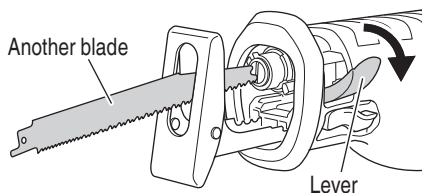

Fig. 5
- (1) If a part of the broken saw blade is sticking out of the small slit of the plunger, pull out the protruding part and take the blade out.
- (2) If the broken saw blade is hidden inside the small slit, hook the broken blade using a tip of another saw blade and take it out. (Fig. 5)